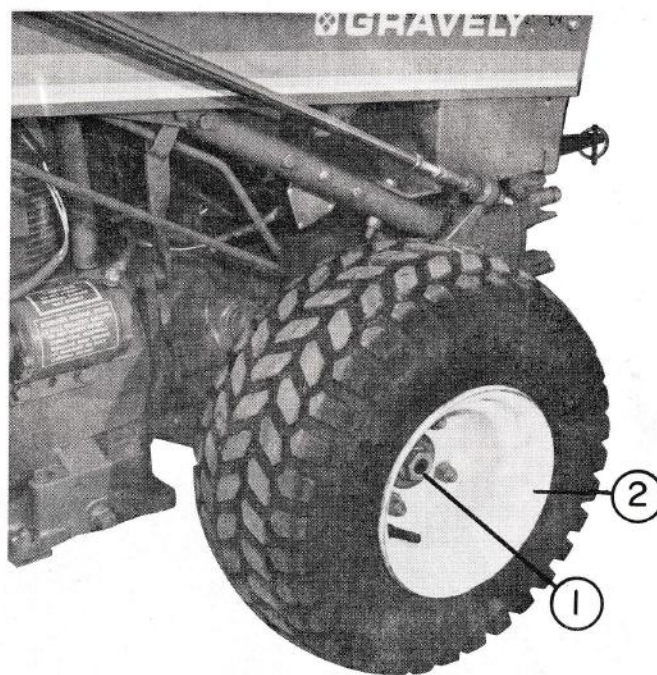

Fig. 3
2. Raise the right side tractor wheel clear of the floor and block securely. See fig. 3.
3. Remove the axle nut and washer from the axle and remove the hub and wheel assembly. See fig. 3.